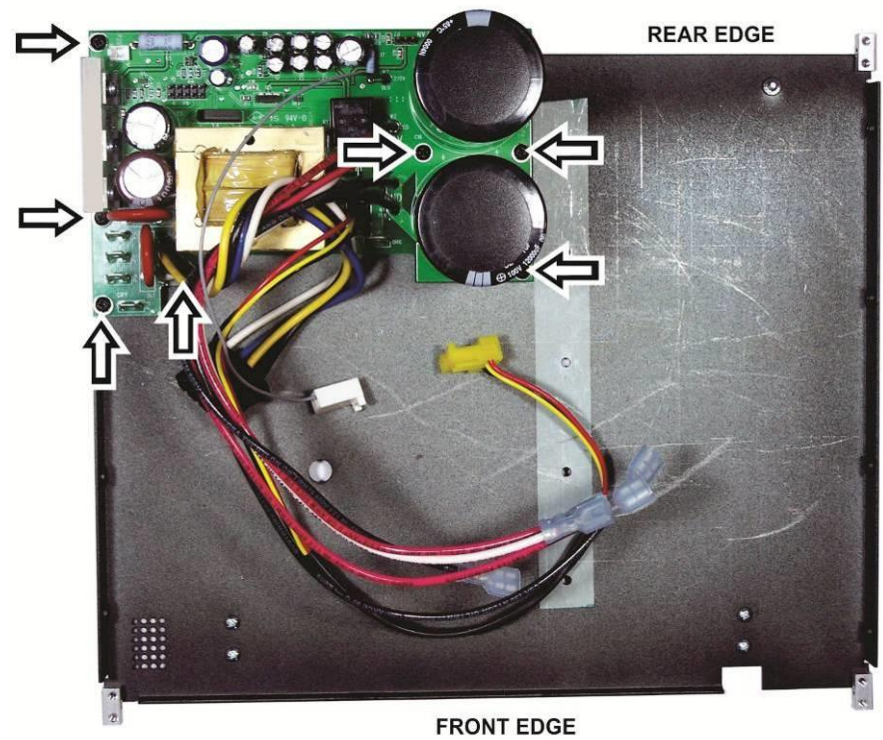

Figure 11. Mounting the Power Supply Module on the Bottom Cover.
- Mount the power supply module on the bottom cover as shown in Figure 11. Be sure to install all seven screws and washers in the locations shown by the arrows in the figure. Note that one of the screws thread into a 2D fastener you installed at the corner earlier.